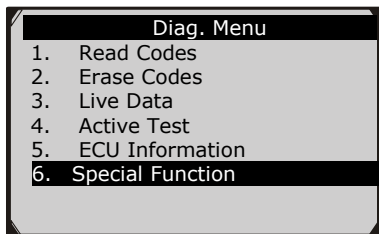

Figure 8.3
- 1) In **Diag. Menu** (Figure 8.3), use the **UP/DOWN** button to select **Special Function** to perform the EPB test, which includes **Brake cable replacement** and **Electric parking brake replacement**.
1. Follow the instructions above to display the **Diag. menu** screen.(Figure 8.3)